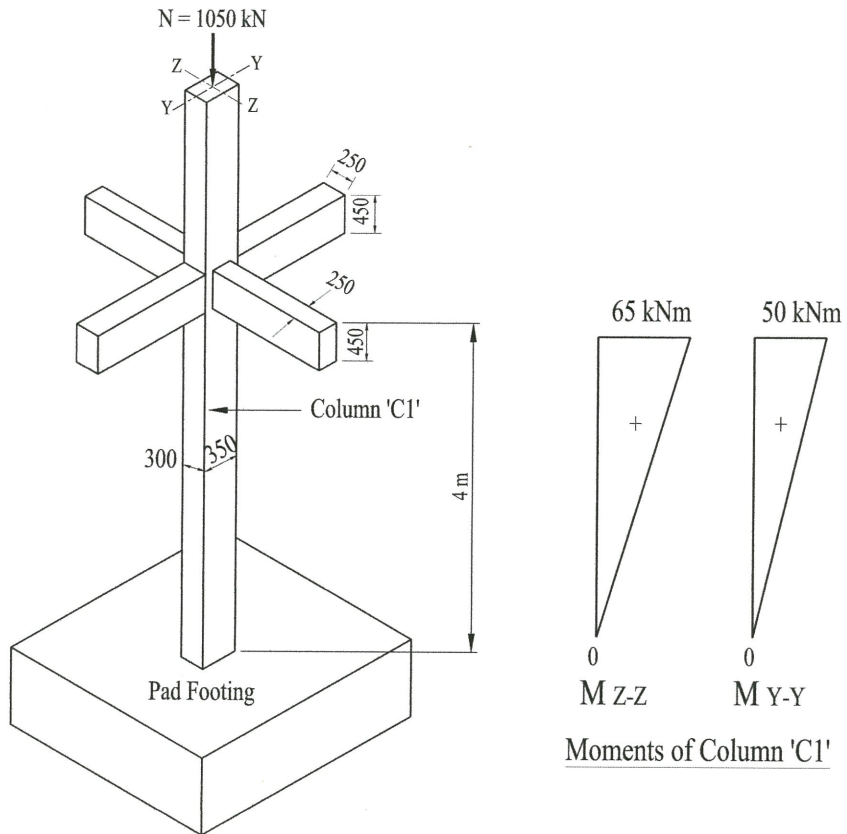

FIGURE Q6
- Q6** An internal reinforced concrete column 'C1' of 300 x 350 mm carries the total factored axial load of 1050 kN is shown in Figure Q6. The height of the column in both axes is 4 m. The column is braced and the pad footing is not designed to restrain moment. Given the following data: